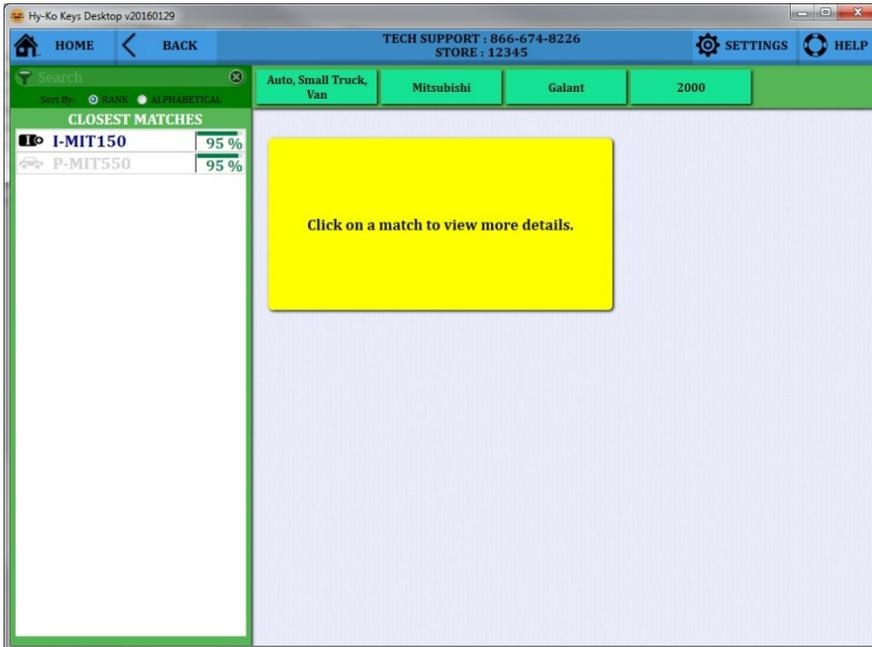

fig. 71
- Your list of possible keys for the vehicle chosen will be shown at the left (see fig. 71).